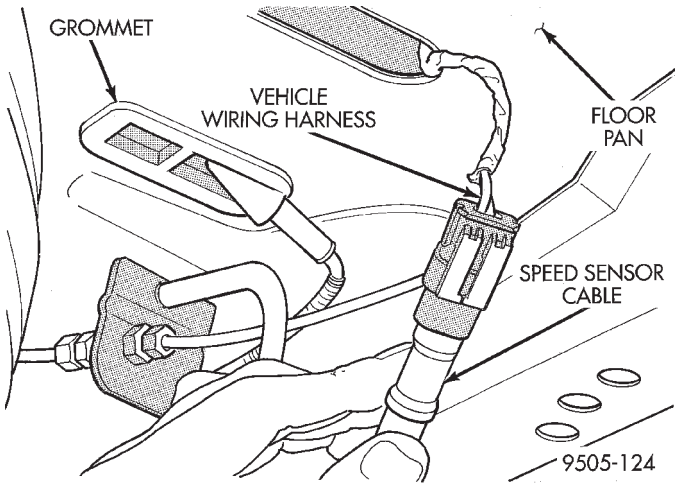

Fig. 38 Rear Speed Sensor Cable Connection To Vehicle Wiring Harness
(3) Remove grommet from floor pan of vehicle and unplug speed sensor cable connector from vehicle wiring harness (Fig. 38).